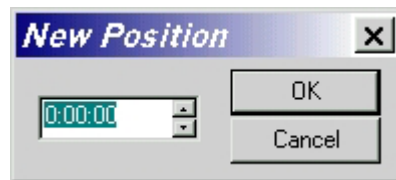

Figure 11
- : Opens the New Position window (See **Figure 11**)